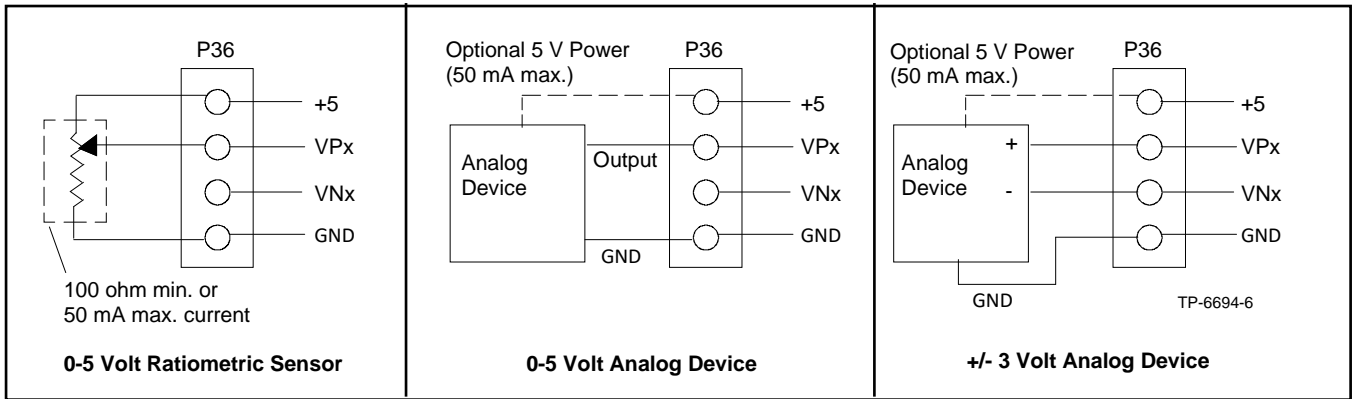

Figure 73 Dry Contact Kit Analog Input Connections P36
5. See Figure 73 for connections of analog inputs.
6. Select the normally open (NO) contacts of the relay, Form A dry contact, depending upon the application. Use a two-wire harness for the NO connections.